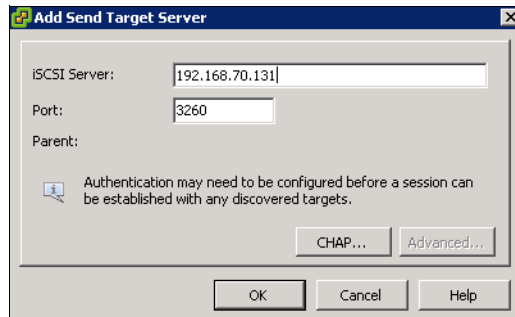

Figure 12-49 Enter a target IP address
4. To add a target, enter the target IP address (Figure 12-49). The target IP address is the IP address of a node in the I/O group from which you are mapping the iSCSI volume. Leave the IP port number at the default value of 3260, and click **OK**. The connection between the initiator and target is established.